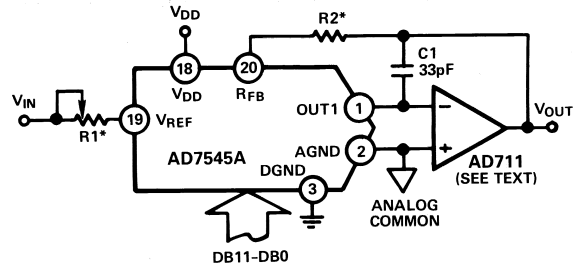
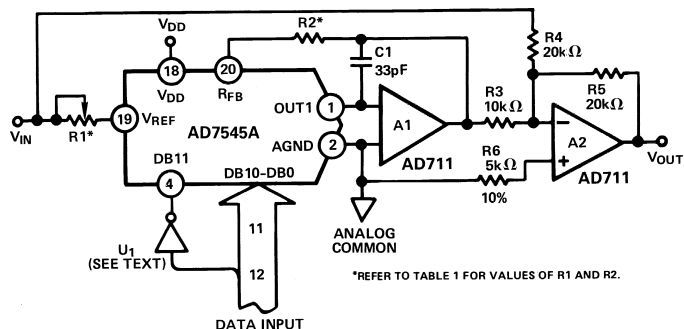
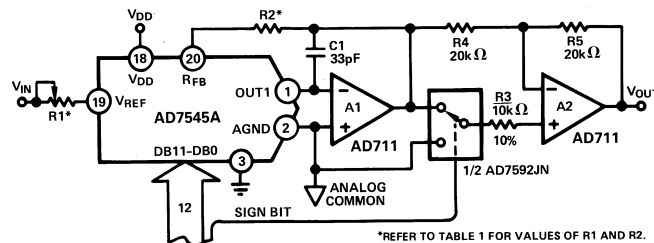
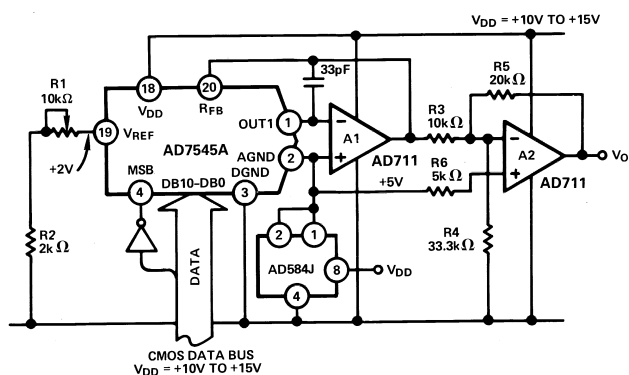

Figure 4. Unipolar Binary Operation
Figure 5. Bipolar Operation (Twos Complement Code)
Figure 6. 12-Bit Plus Sign Magnitude Converter
Figure 10. Single Supply “Bipolar” 2s Complement D/A Converter
Figures 4 and 5 show simple unipolar and bipolar circuits using the AD7545A. Resistor R1 is used to trim for full scale. The L, C, U grades have a guaranteed maximum gain error of  $\pm 1$  LSB at  $+25^\circ\text{C}$ , and in many applications it should be possible to dispense with gain trim resistors altogether. Capacitor C1 provides phase compensation and helps prevent overshoot and ringing when using high speed op amps. Note that all the circuits of Figures 4, 5 and 6 have constant input impedance at the  $V_{REF}$  terminal.
The circuit of Figure 4 can either be used as a fixed reference D/A converter so that it provides an analog output voltage in the range 0 to  $-V_{IN}$  (note the inversion introduced by the op amp) or  $V_{IN}$  can be an ac signal in which case the circuit behaves as an attenuator (2-Quadrant Multiplier).  $V_{IN}$  can be any voltage in the range  $-20 \leq V_{IN} \leq +20$  volts (provided the op amp can handle such voltages) since  $V_{REF}$  is permitted to exceed  $V_{DD}$ . Table II shows the code relationship for the circuit of Figure 4.
Table II. Unipolar Binary Code Table for Circuit of Figure 4
Figure 5 and Table III illustrate the recommended circuit and code relationship for bipolar operation. The D/A function itself uses offset binary code and inverter U1 on the MSB line converts two's complement input code to offset binary code. If appropriate, inversion of the MSB may be done in software using an exclusive -OR instruction and the inverter omitted. R3, R4 and R5 must be selected to match within 0.01%, and they should be the same type of resistor (preferably wire-wound or metal foil), so that their temperature coefficients match. Mismatch of R3 value to R4 causes both offset and full-scale error. Mismatch of R5 to R4 and R3 causes full-scale error.
Table III. Twos Complement Code Table for Circuit of Figure 5
Figure 6 and Table IV show an alternative method of achieving bipolar output. The circuit operates with sign plus magnitude code and has the advantage that it gives 12-bit resolution in each quadrant compared with 11-bit resolution per quadrant for the circuit of Figure 5. The AD7592 is a fully protected CMOS change-over switch with data latches. R4 and R5 should match each other to 0.01% to maintain the accuracy of the D/A converter. Mismatch between R4 and R5 introduces a gain error. Refer to Reference 1 (supplemental application material) for additional information on these circuits.
Table IV. 12-Bit Plus Sign Magnitude Code Table for Circuit of Figure 6
**Output Offset:** CMOS D/A converters such as Figures 4, 5 and 6 exhibit a code dependent output resistance which, in turn, can cause a code dependent error voltage at the output of the amplifier. The maximum amplitude of this error, which adds to the D/A converter nonlinearity, depends on VOS, where VOS is the amplifier input offset voltage. To maintain specified accuracy with VREF at 10 V, it is recommended that VOS be no greater than 0.25 mV, or (25 × 10-6) (VREF), over the temperature range of operation. Suitable op amps are AD517 and AD711. The AD517 is best suited for fixed reference applications with low bandwidth requirements: it has extremely low offset (150 μV max for lowest grade) and in most applications will not require an offset trim. The AD711 has a much wider bandwidth and higher slew rate and is recommended for multiplying and other applications requiring fast settling. An offset trim on the AD711 may be necessary in some circuits.
**Temperature Coefficients:** The gain temperature coefficient of the AD7545A has a maximum value of 5 ppm/°C and a typical value of 2 ppm/°C. This corresponds to worst case gain shifts of 2 LSBs and 0.8 LSBs respectively over a 100°C temperature range. When trim resistors R1 and R2 (such as in Figure 4) are used to adjust full-scale range, the temperature coefficient of R1 and R2 should also be taken into account. The reader is referred to Analog Devices Application Note "Gain Error and Gain Temperature Coefficient to CMOS Multiplying DACs," Publication Number E630c-5-3/86.
The circuits of Figures 4, 5 and 6 can all be converted to single supply operation by biasing AGND to some voltage between  $V_{DD}$  and DGND. Figure 10 shows the 2s Complement Bipolar circuit of Figure 5 modified to give a range from +2 V to +8 V about a “pseudo-analog ground” of 5 V. This voltage range would allow operation from a single  $V_{DD}$  of +10 V to +15 V. The AD584 pin-programmable reference fixes AGND at +5 V.  $V_{IN}$  is set at +2 V by means of the series resistors R1 and R2.